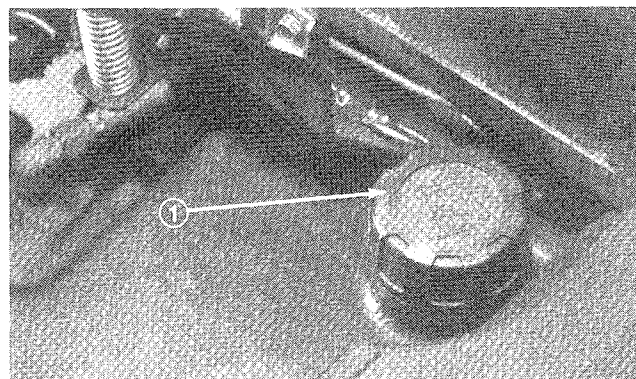

Figure 18
1. Tip seat forward and prop it with the support rod so it cannot fall accidentally. Using a clean rag, clean area around fuel tank cap (Fig. 18).